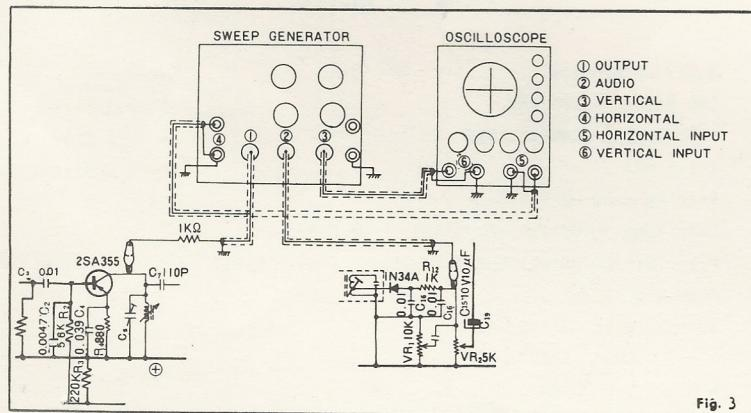

Fig. 3
- (a) Connect the output of the sweep generator to the hot terminal of the RF coil or of the RF trimmer through the approx 1  $\text{k}\Omega$  resistor. (Refer to Fig.3)